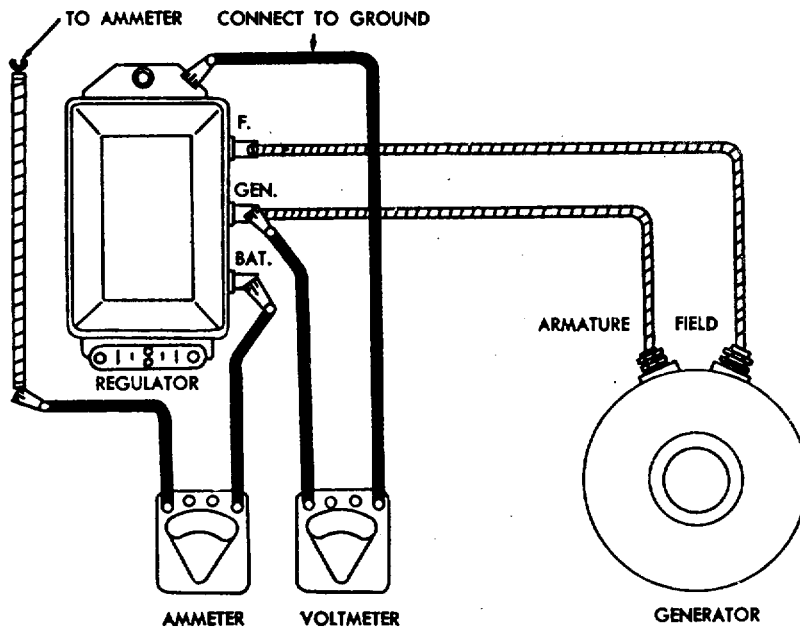
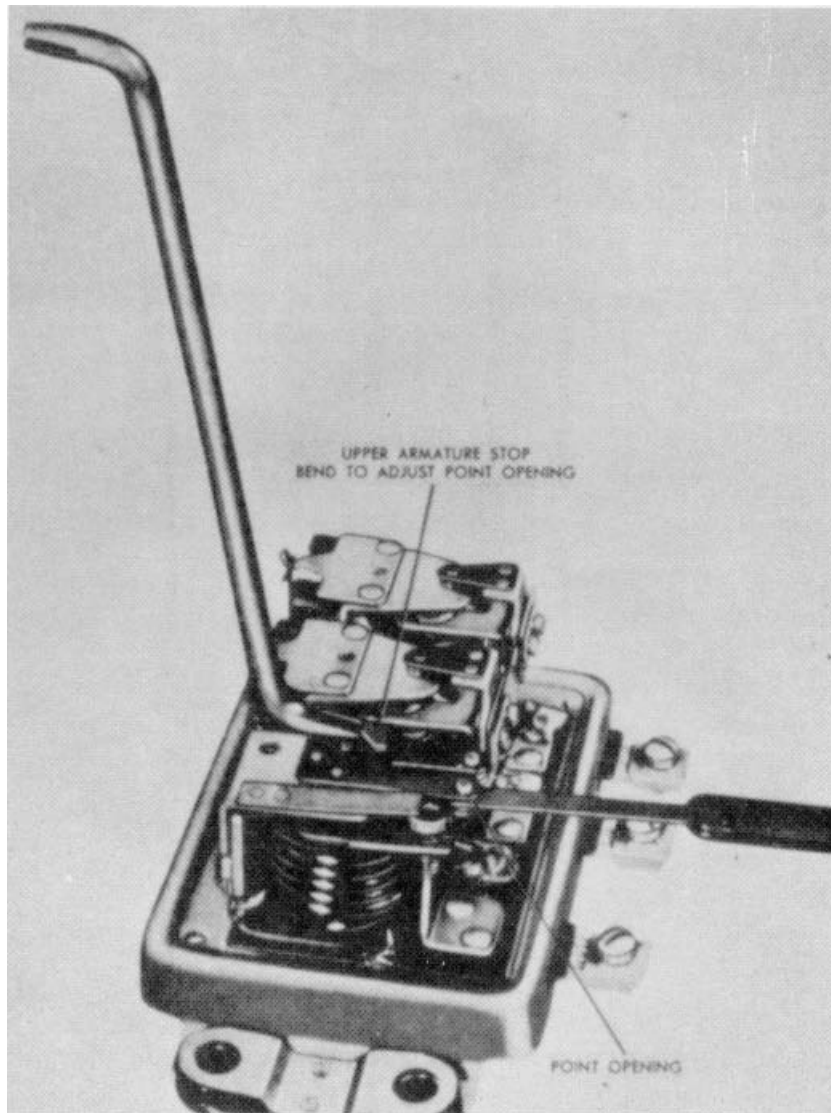

Figure 82. Checking the cutout relay setting.
Figure 84. Adjusting cutout relay point opening.
- (1) *Cutout Relay.* Connect the regulator to the batteries and generator. Connect a voltmeter from the GENERATOR terminal to GROUND and insert an ammeter in series with the BATTERY terminal as shown in figure 82. Increase the generator speed until the cutout relay contacts close. The contacts should close
required. Tighten the screws after adjustment. Measure the contact point opening with the contacts open (fig. 84). The contact point opening should be 0.32 inch. Bend the upper armature stop with an offset screwdriver to adjust the contact point opening as required. Connect the regulator (fig. 82) and check the